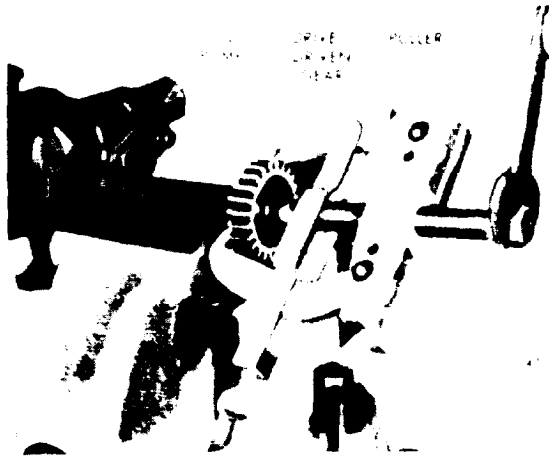

Figure 11E-5. Removing Oil Pump Drive-Driven Gear from Shaft
5. Remove the pump driven gear (22) from the driven gear shaft (24).
6. Straighten the lip of the lock washer (84) and unscrew the bolt (83) thus freeing the idler gear (56).
7. Clamp the pump body, drive shaft and gear assembly in a bench vise. Pull the drive driven gear from the outer end of the pump drive shaft as shown in Figure 11E-5.